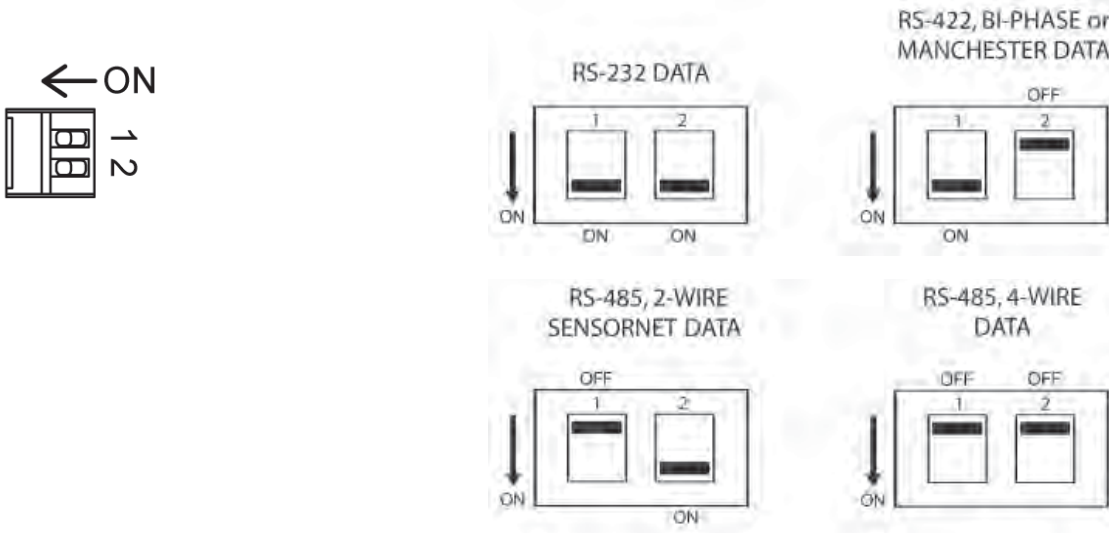

FIGURE 4 – DATA CONNECTIONS
The data channel is configured using a two position switch to operate as RS232, RS422 or RS485, either two (2) wire or four (4) wire. See **Figure 4** on **Page 3** for details.